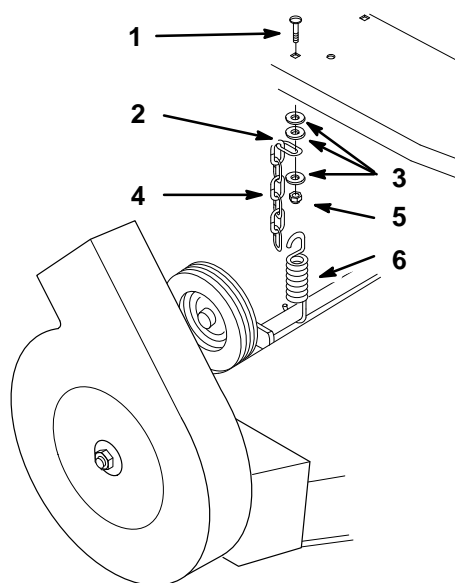

Figure 21
1. Place a 5/16 x 1 1/4" (32 mm) carriage bolt through the squared hole (added in "Tractor Preparation") in the right hand footrest (Fig. 21).
remaining links hang toward the rear. Secure with a third washer and a 5/16" locknut (Fig. 21).
3. Hook the spring around the wheel shaft at the rear of mower and into one of the chain links (Fig. 21). Refer to Operation Section , "Adjusting Height-of-Cut" for recommended chain link setting.